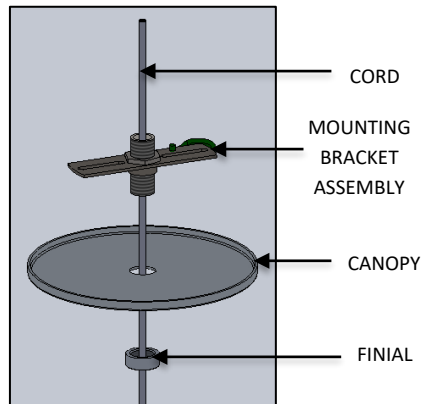

FIG. 20 – CORD INSTALLATION
4. And on other end Insert CORD into CANOPY FINIAL (THREADS UP), CANOPY, AND MOUNTING BRACKET. Adjust fixture drop to desired height as shown below in FIG. 20.